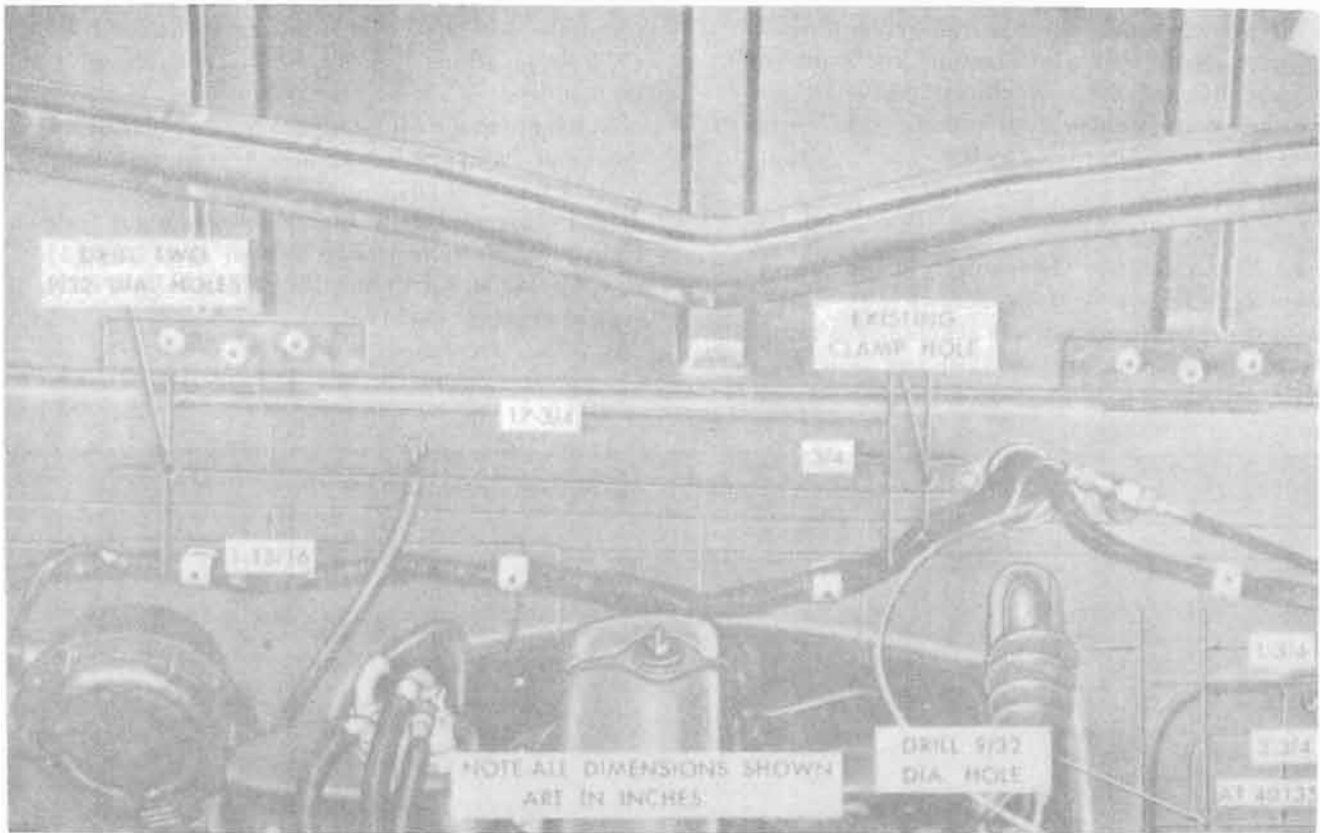

Figure 18-110. Cowl panel drilling diagram.
c. Locate and drill two $9/32$ -inch holes in upper cowl panel and one $9/32$ -inch hole in dash support panel (fig. 18-110).